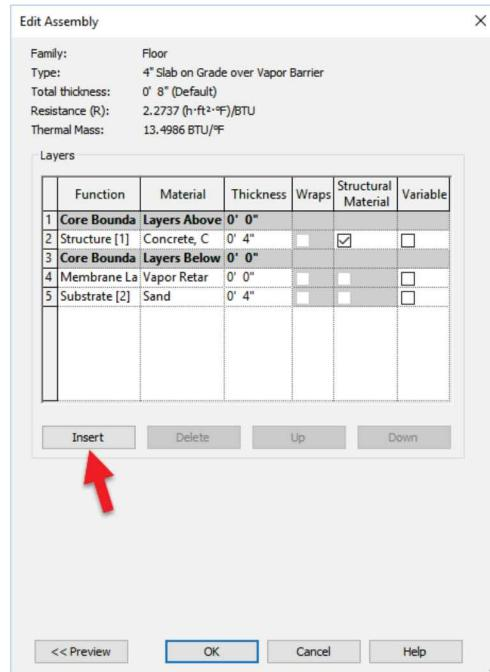

FIGURE 9-1.1 New floor system
- Thickness: 4" (Figure 9-1.1).**